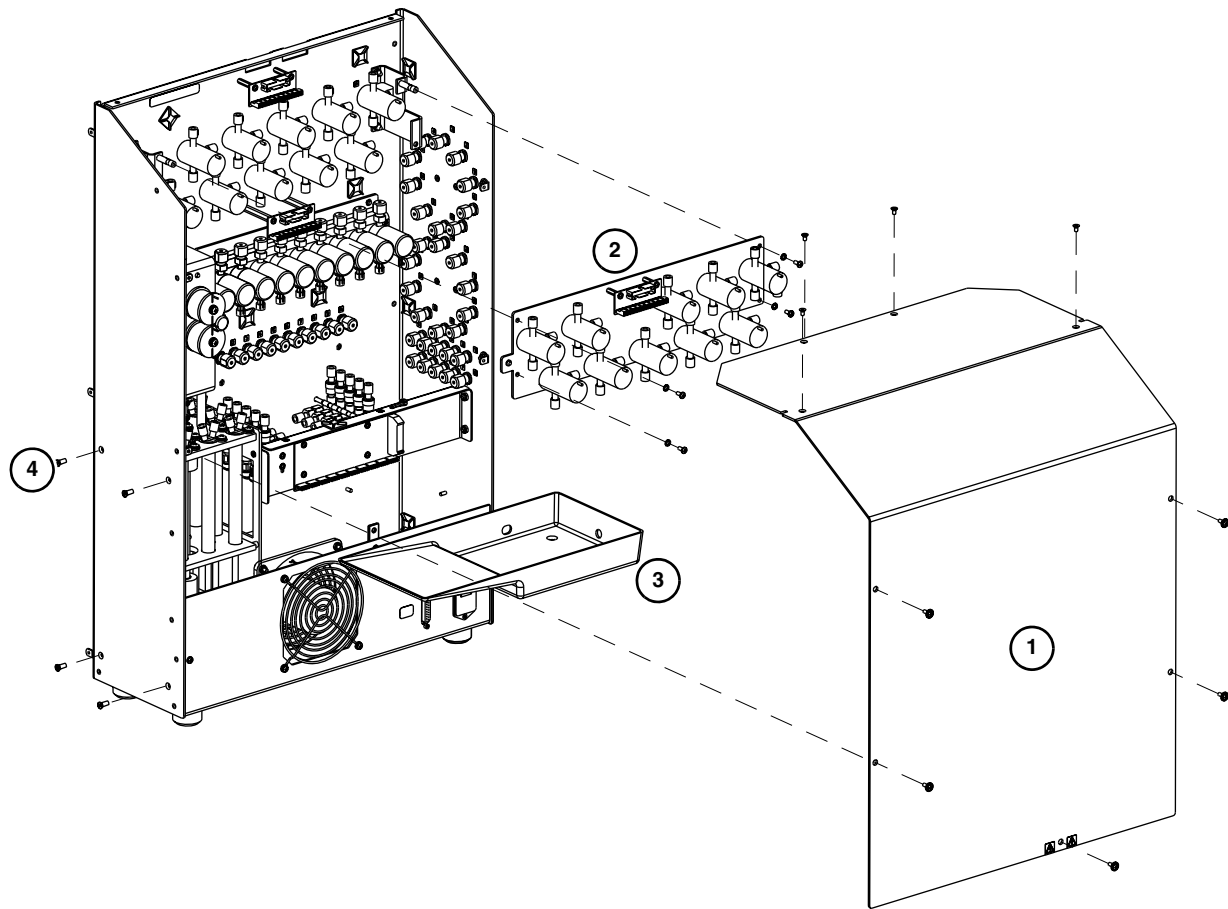

Figure 4-2 Access the pump assembly
1. Remove the rear cover (item 1, Figure 4-2) by unfastening the nine screws located on the top and back of the BioOptix 10.
3. Remove the upper valve assembly (item 2, Figure 4-2) by unfastening the four screws. After removing, the valve assembly can be rotated upward and placed on top of the system with the cables and tubing still attached.
4. Remove the drip tray (item 3, Figure 4-2).
5. Remove the four screws (item 4, Figure 4-2) that secure the pump assembly to the side panel.
- c. Insert and tighten the four screws with lock washer through the side of the case (item 4, Figure 4-2).
21. Place the drip tray (item 3, Figure 4-2) back into the system.
22. Return the upper valve assembly (item 2, Figure 4-2) to its original location and secure with the mounting hardware.
23. Place the back cover (item 1, Figure 4-2) on the BioOptix 10 and secure it with the mounting hardware.